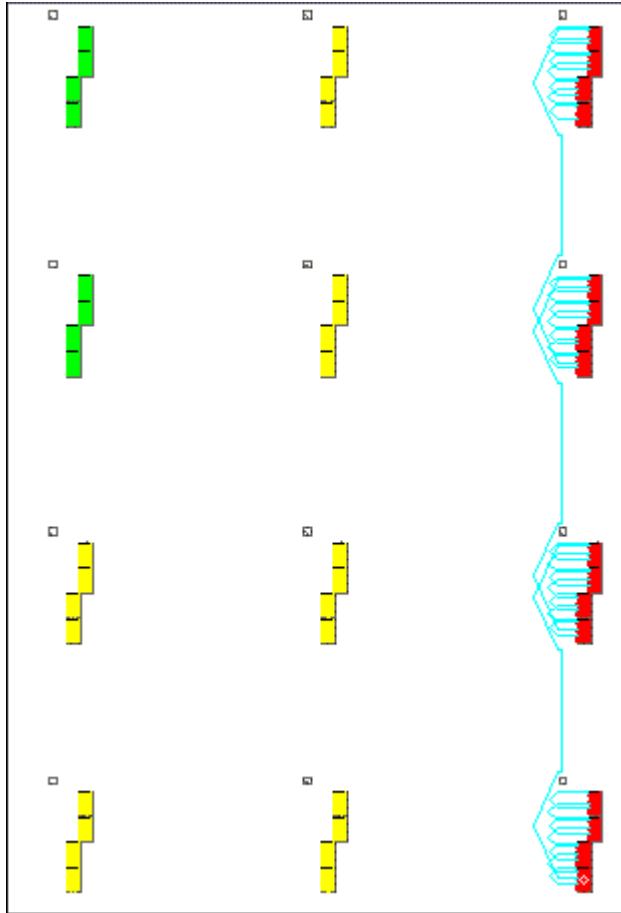

Figure 10: Correct Placement of `tap_dly` Circuits
5. If the tap delay circuit is properly constrained, the logic is located in a single column in four sequential Configurable Logic Block (CLBs). This will indicate the `RLOC_ORIGIN` is correct. Figure 10 is a screen capture showing an example of the correct placement of the `tap_dly` circuits.